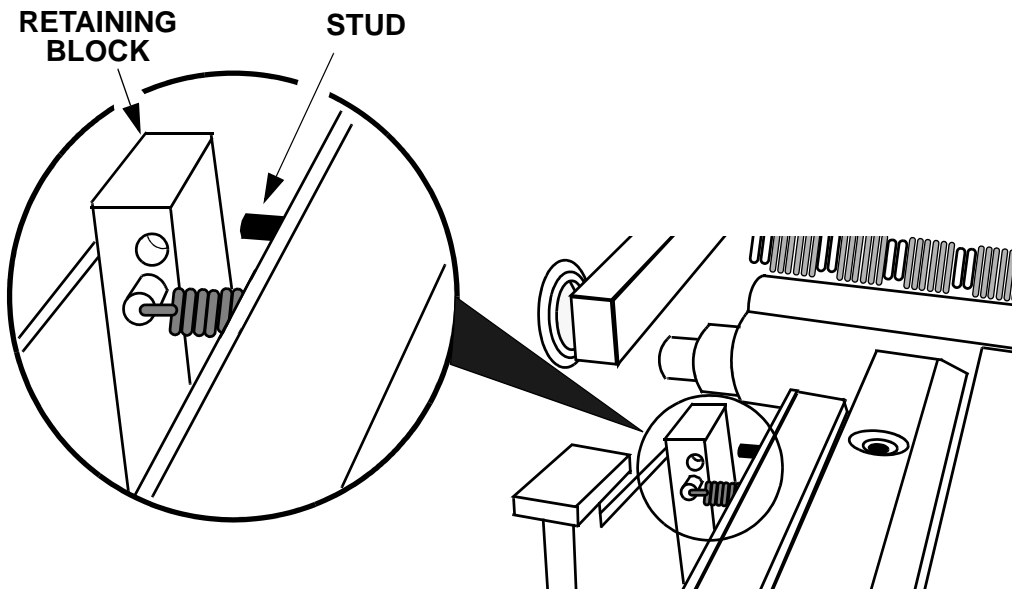

Figure 3-5 Pin Bar Mount Assembly (with Release Lever Open)
Step 1. Pull and hold open the pin bar release lever shown at the right. This opens the retaining block shown below in Figure 3-5.
- the interlock pin is just ahead of the stud shown in Figure 3-5.